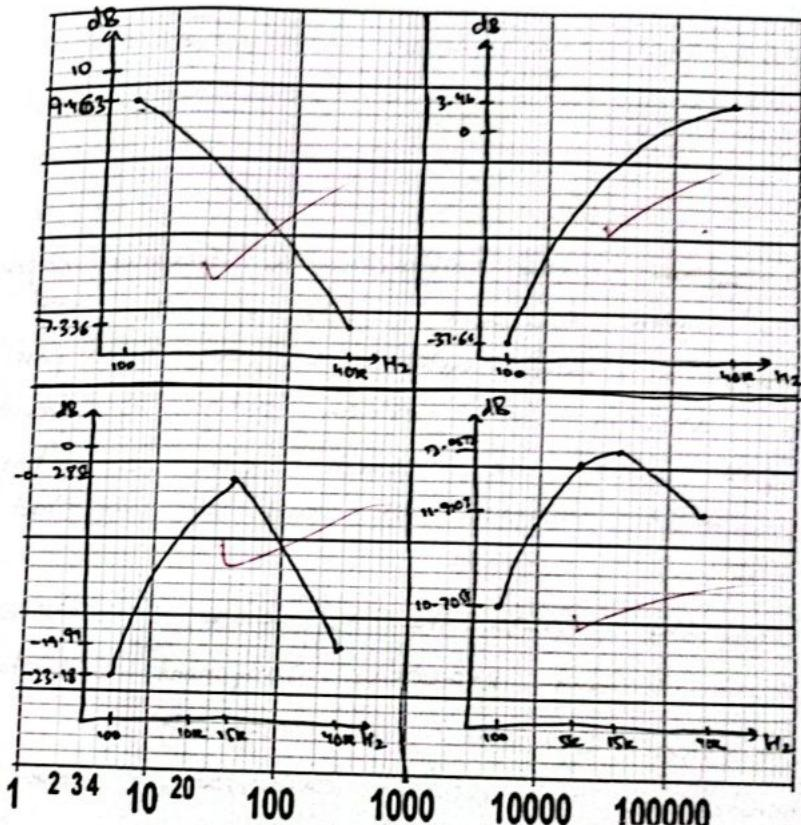

Figure 2 (Frequency response of 2nd order system)
1. Construct RC and RL circuit on breadboard as shown in Figure2 and Figure3.
5. Plot the frequency response of each system on the given semi log paper in Fig2 (Take logarithmic frequency on x-axis and voltage in dBs on y-axis).